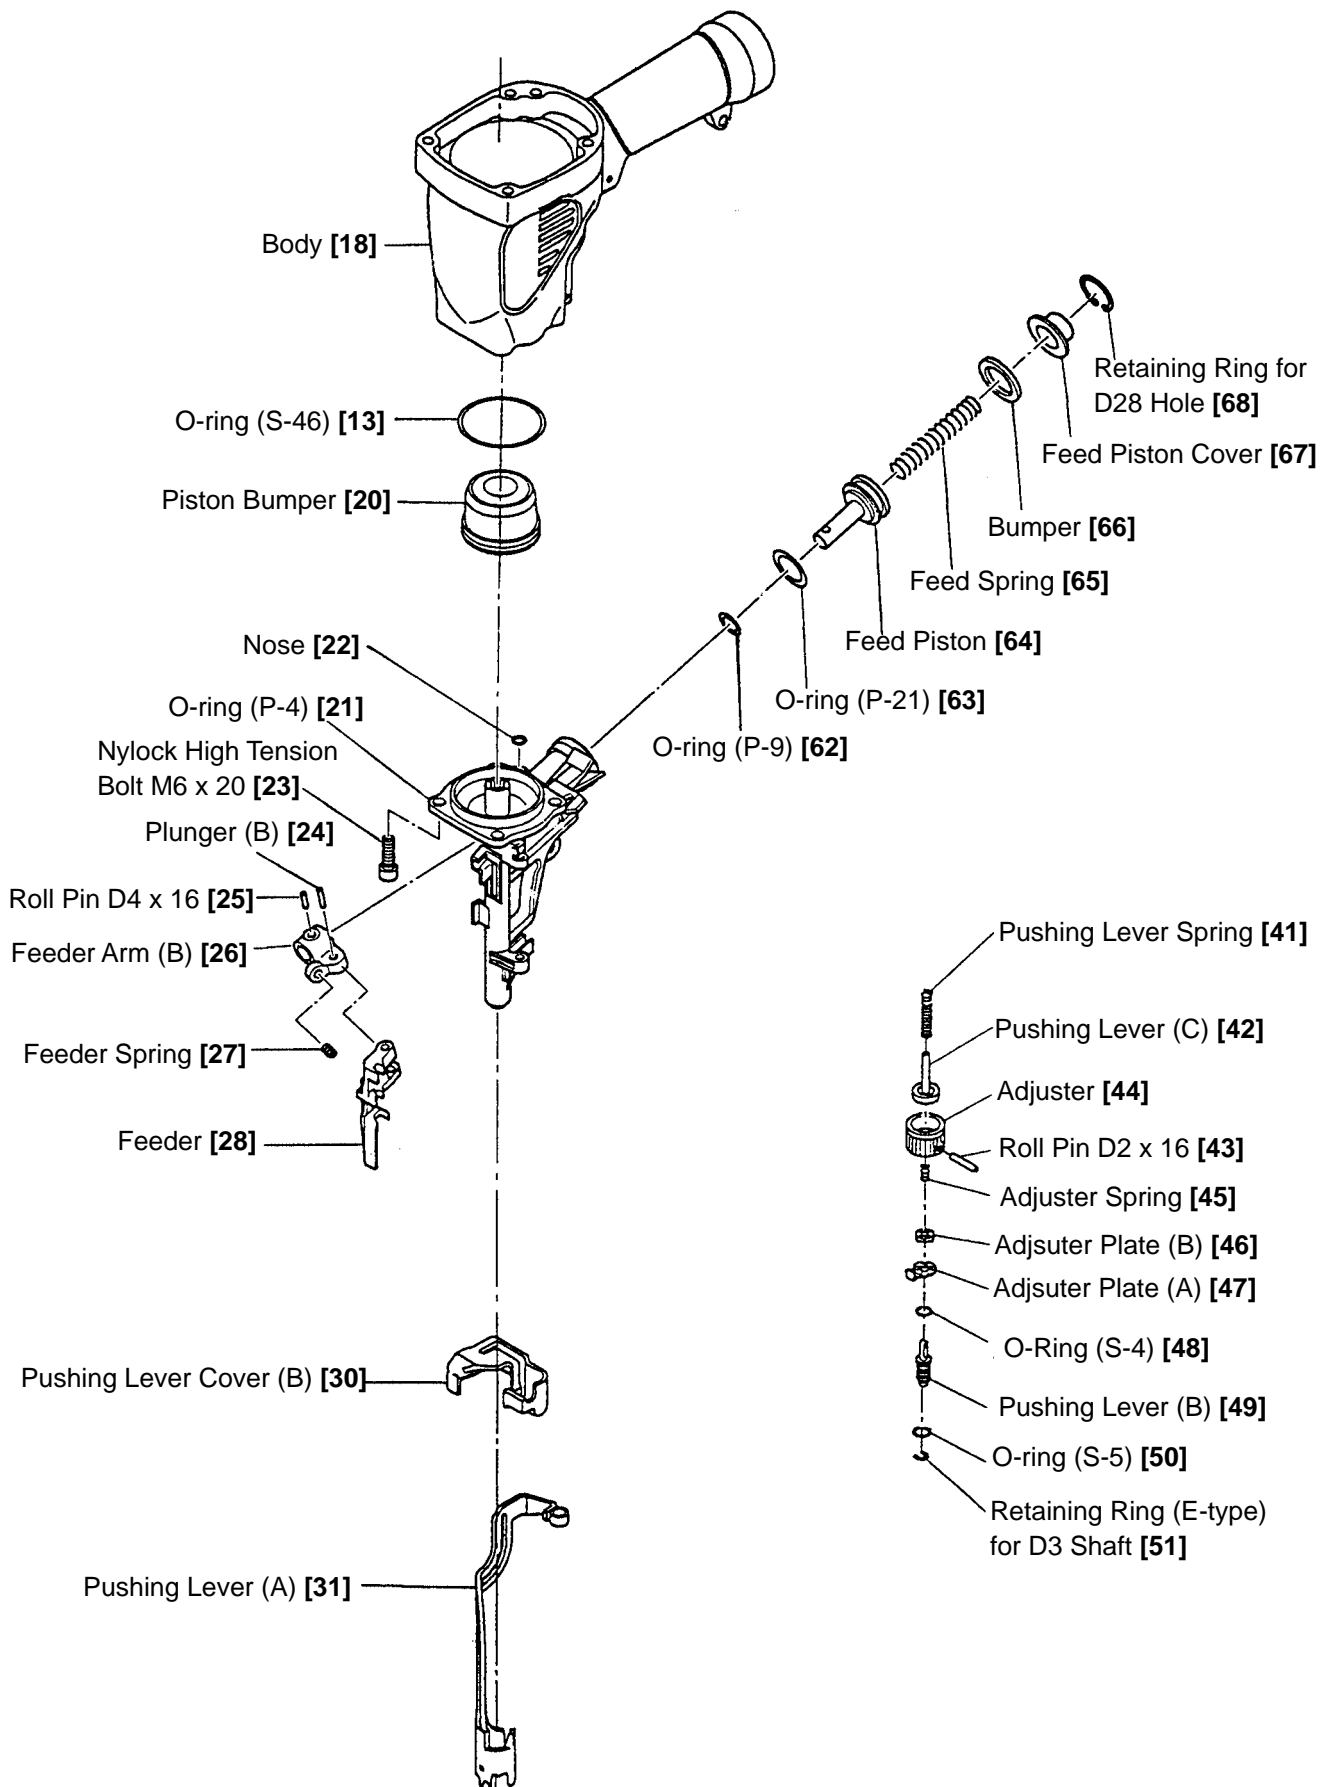

Fig. 21 Disassembly and reassembly of the driving section
- Apply grease to the lip portions (B) and (C) of Head Valve (A) [10] (Fig. 21).
- Apply grease to O-Ring (P-22) [9]. Mount O-Ring (P-22) [9] to Head Valve (A) [10], then mount it to the Exhaust Cover [5].
(a) Disassembly (See Figs. 21 and 22.)